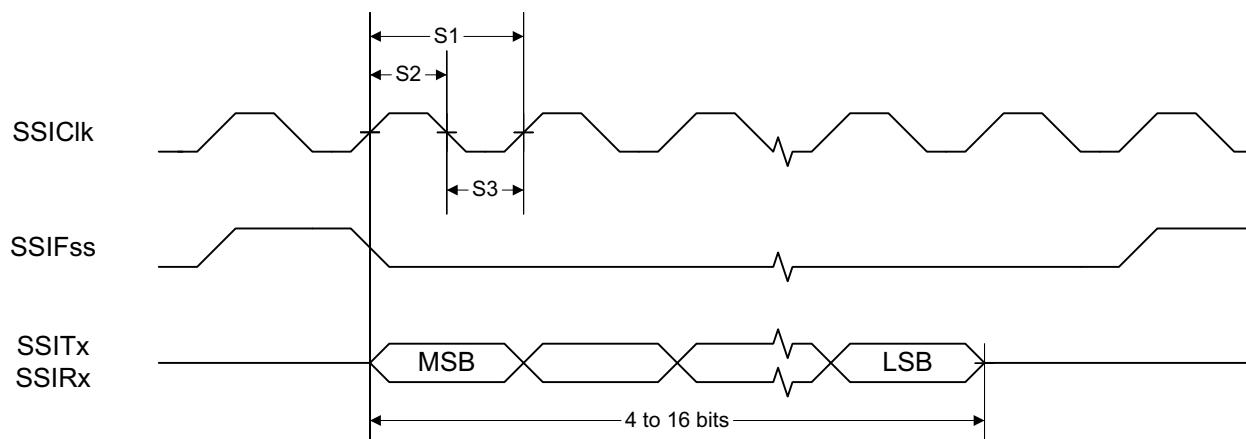
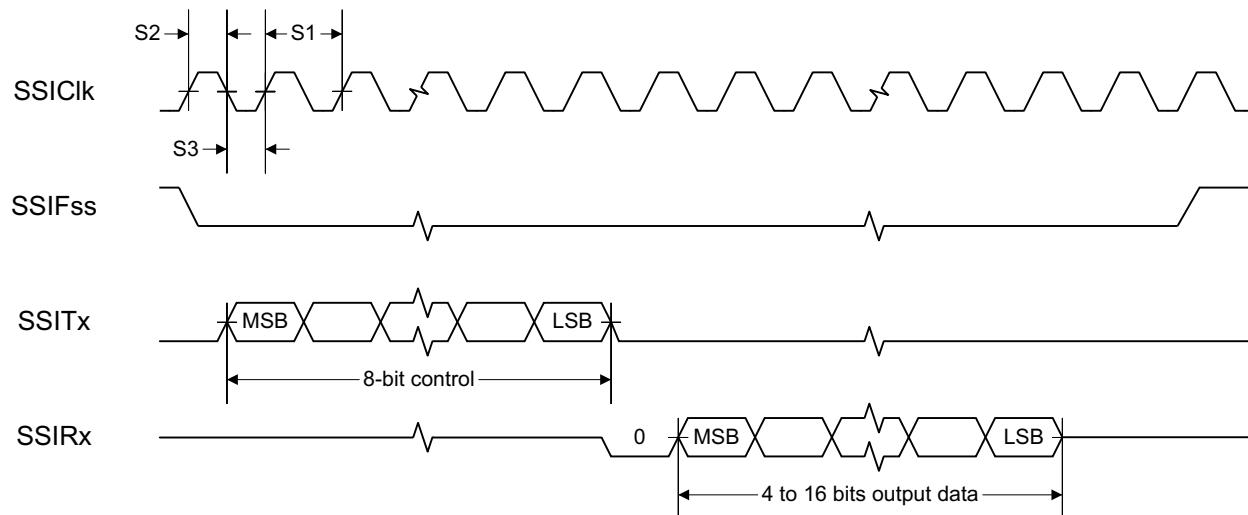

Figure 5-1. SSI Timing for TI Frame Format (FRF = 01), Single Transfer Timing Measurement
Figure 5-2. SSI Timing for MICROWIRE Frame Format (FRF = 10), Single Transfer
(1) See the SSI timing diagrams, Figure 5-1, Figure 5-2, and Figure 5-3.